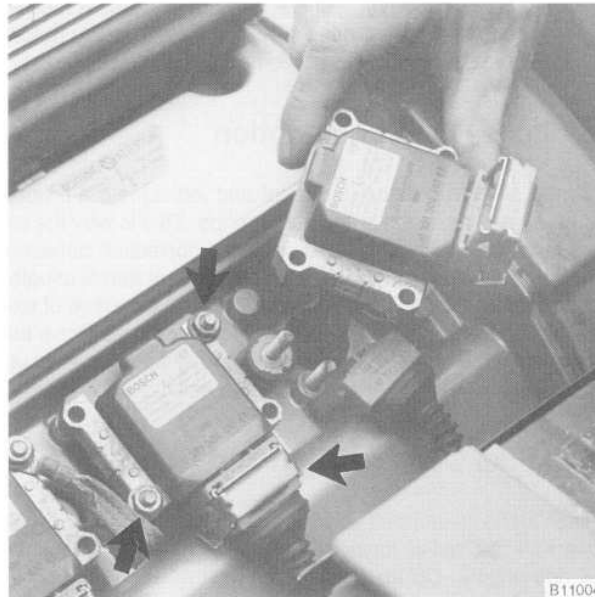

Fig. 6. Remove ignition coils on M50/M60 engines by disconnecting harness connector and removing mounting nuts (arrows).
- On M50 and M60 engines, disconnect the harness connectors from the ignition coils by lifting up on the retaining clip. Remove the coil mounting nuts and remove the coils. See Fig. 6. Remove the spark plugs.